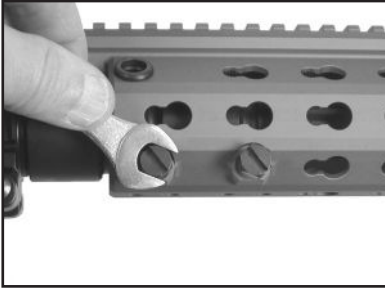

Fig. 74 – Tightening the locking screws
2. Tighten the locking screws. The 11 mm (7/16") hex screws allow a variety of wrenches or screw drivers to be used for installation or removal. **DO NOT OVER TORQUE.** (Fig. 74 & 75)